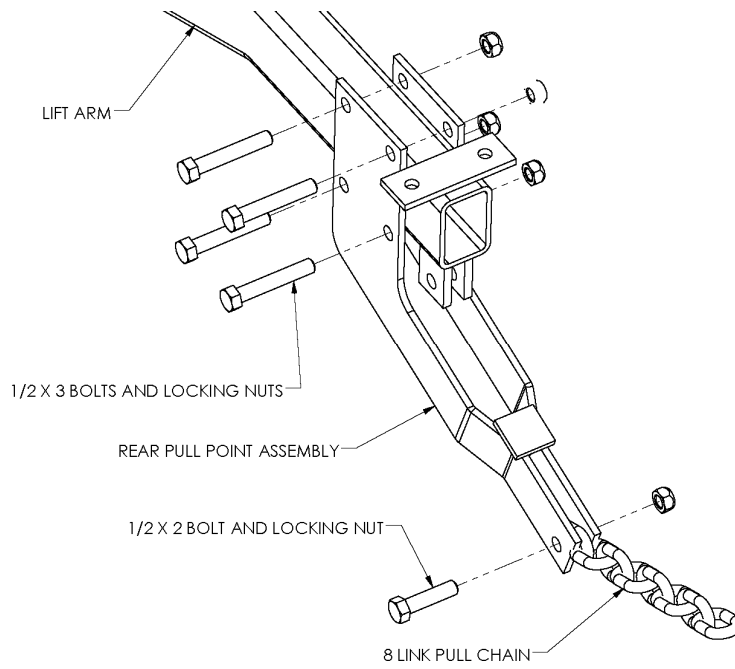

Figure 34
1. Attach a rear pull point assembly to the rear end of each lift arm. Use four 1/2" x 3" bolt and lock nuts. Refer to Figure 34.
2. Bolt an 8-link pull chain to the end of the rear pull point assembly with a 1/2" x 2" bolt, lock washer, and hex nut. Refer to Figure 34.